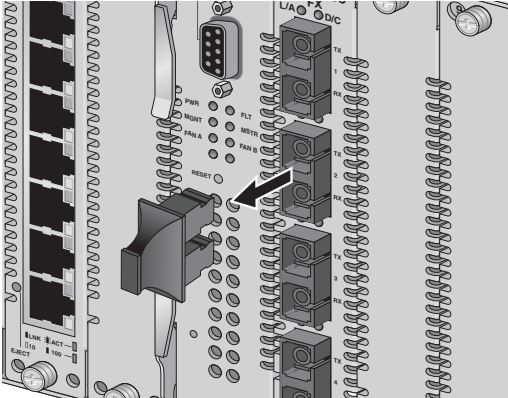

Figure 6. Removing an SC Port Dust Cap
- Remove the dust caps from the AT-8412 line card. Perform this step if you purchased an AT-8412/SC FX line card. (See Figure 6 on page 12.) Or, see step 10 to remove a dust cap from an AT-8412/MT FX line card.